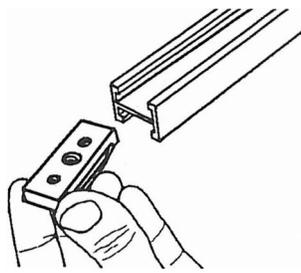

Fig. A-26
**20.** Slide a T-nut (26) in the channel extrusion (13), as shown in Fig. A-26.